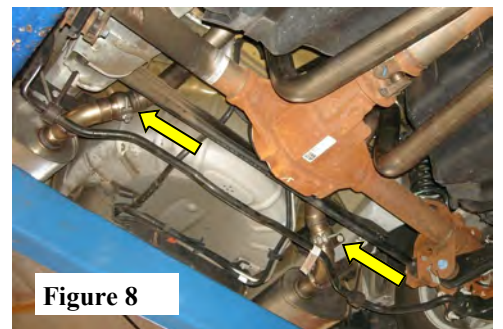

Figure 8
5. Check your exhaust system for proper clearance under the vehicle and also for tip alignment. (See Fig. 8)